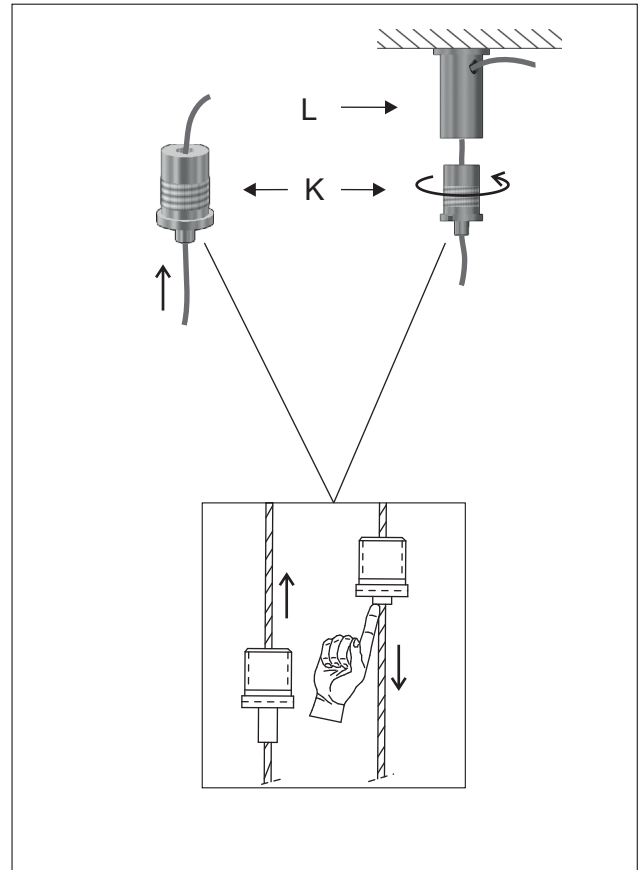

Figure 4
4 - Insert the steel cables through the gripper supports (K) and then the side hole of the tensors (L). Again screw the gripper support (K) to the tensor and adjust the cable to the desired length. Cut the excess steel cable. Figure 4
Push the cable upwards to reduce the cable length and press the pivot of the gripper support (K) to increase it. By keeping the mechanism pressed, the cable moves freely. Release the mechanism once the desired length is achieved. The cable will then stay in place. Figure 4